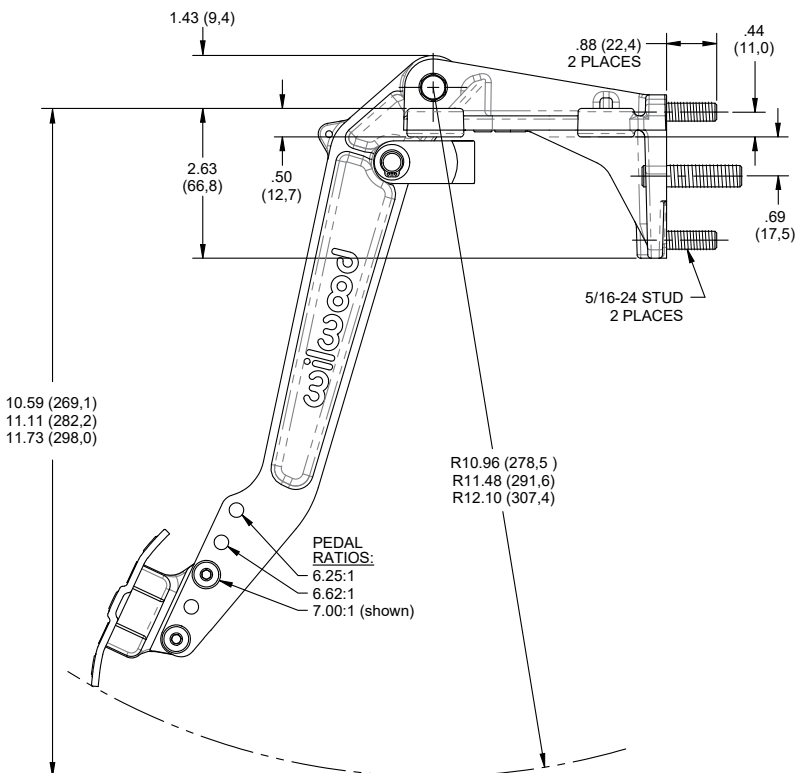

Figure 1a. Forward Swing Mount Dual Pedal Assembly, Physical Dimensions, 6.25:1 to 7.00:1 Ratio (P/N 340-16384)
•Wilwood's forward swing mount dual pedal assembly must be mounted using the four .35" diameter outboard tab mounting holes as shown in Figures 1a & 1b. Attach the pedal assembly to two sturdy beams or plates with four 5/16" bolts. Pedal assembly must be rigidly attached to frame and not deflect under heavy pedal forces. **NOTE:** Pedals must be free from obstructions over their entire range of motion. Allow enough space so pushrod adjustments can be made and master cylinders are accessible.